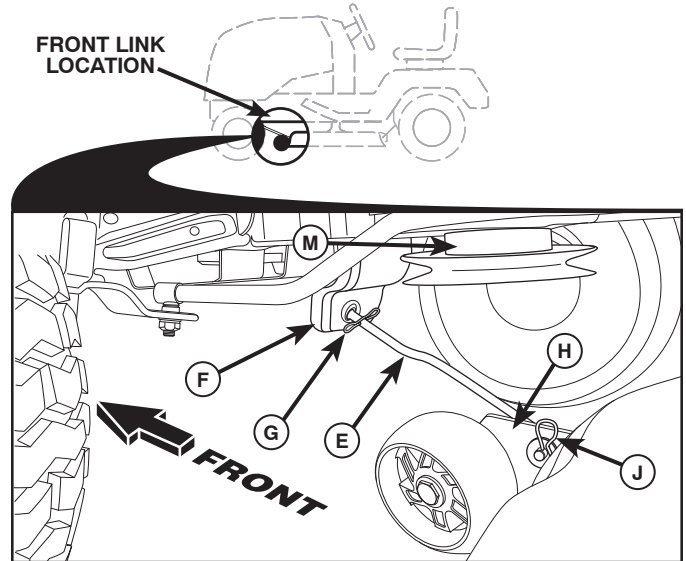

Fig. 33
## 8 ATTACH FRONT LINK (E) (See Fig. 33)
- From front of tractor, insert rod end of front link (E) through front hole in tractor front suspension bracket (F).
- Move to left side of mower and insert large retainer spring (G) through hole in front link (E) behind front suspension bracket (F).
- Insert other end of link (E) into hole in front mower bracket (H) and secure with washer and small retainer spring (J).